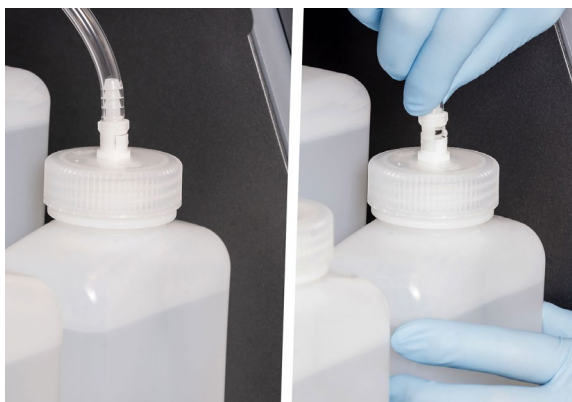

Figure 82. Disconnecting the bleach bottle via the line fitting.
- Disconnect the bleach bottle via the fitting at the top of the bottle (Figure 82) by twisting the fitting to unlock it.